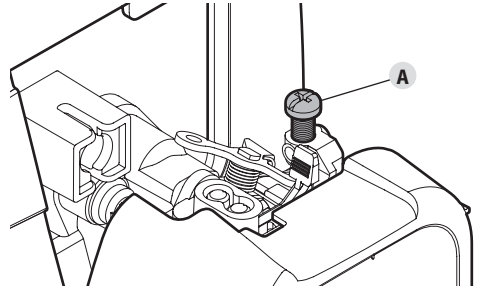

Fig. 20
- If the engine stops, increase the idle speed. Use a small Phillips screwdriver to turn the idle speed screw (Fig. 20-A) clockwise, 1/8 of a turn at a time, until the engine idles smoothly.